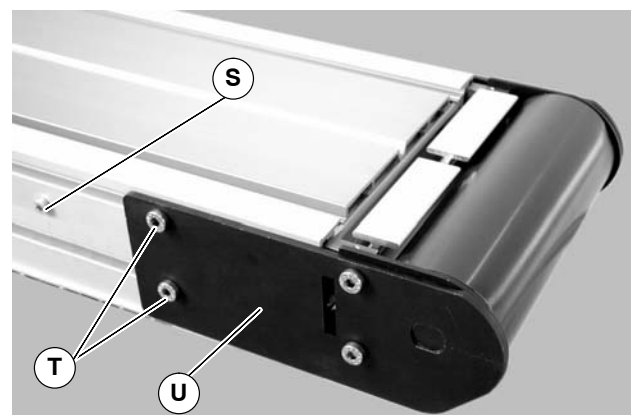
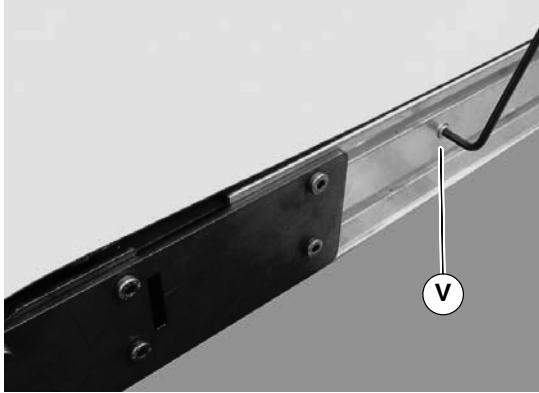

Figure 18
Figure 19
2. On tension end of the conveyor, identified by the pinion locking screw (S of Figure 18), push in head plate assembly (U): Loosen the pinion locking screw (S), adjust the pinion torque screw (V of Figure 19). On both sides of conveyor, loosen the two tail clamp bolts (T of Figure 18), and push head plate assembly (U) inward.